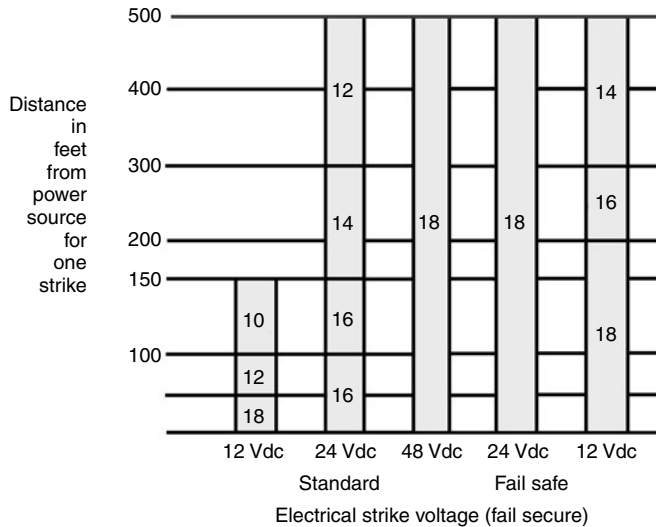

Figure 19.29 Electrical strike voltage (fail-secure mode of operation). (Trine Consumer Products Division, Square "D" Company)
Due to the remote control applications for electrical strike units, there can be a considerable distance between the strike location and the actual control for that particular strike. Figure 19.29 shows the *minimum* wire sizes required for standard and fail-safe electrical strike unit voltage at various distances.
Corrections: (2) Provide sufficient sized service wire (Fig. 19.29).